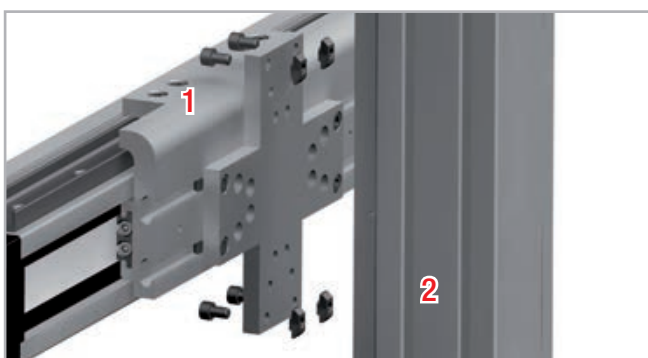

Fig. 97
4. Insert the screws from the other side of the connection plate (see fig. 97).